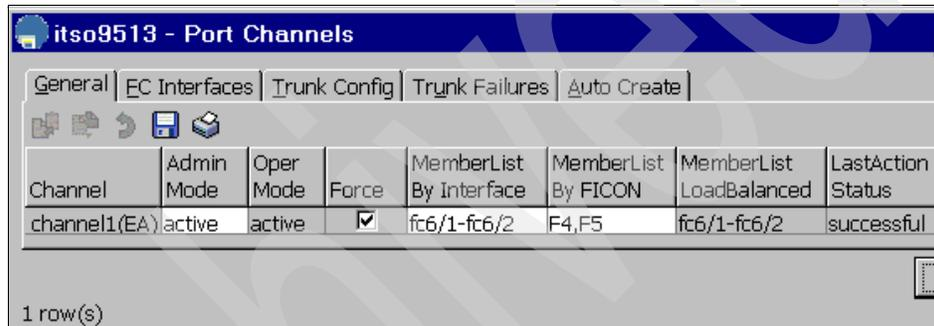

Figure 42 9513 Port Channel verification
8. In DM, to verify the PortChannel operation, select the **Interface** → **Port Channels** on the 9513 (Figure 42).